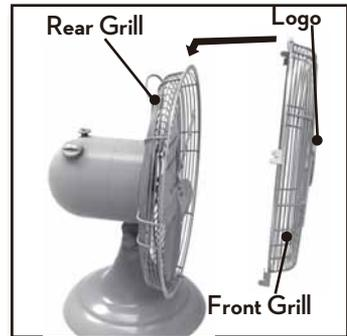

Figure 11
6. Center the front grill by aligning the logo on the grill hub so it is horizontal and parallel to the floor. Figure 11.